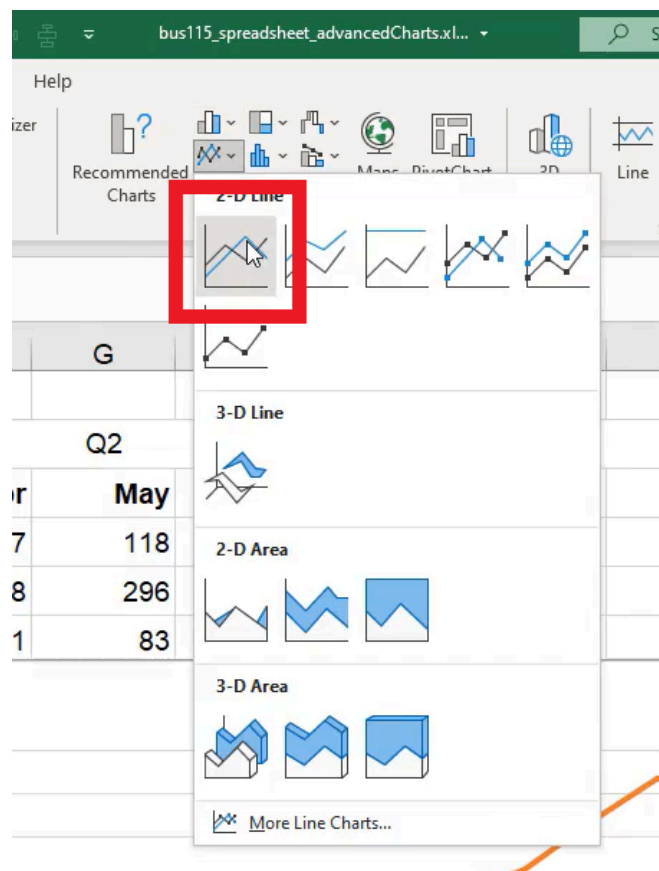

Figure 37.3
4. Choose the basic 2D line chart. (See **Figure 37.3**)